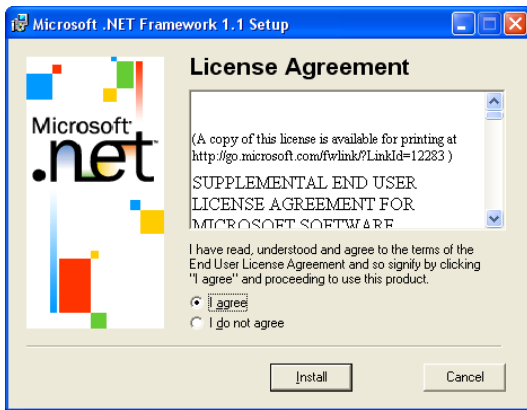

Figure 8: Microsoft .NET Installation License Agreement
- Once the setup is complete, a license agreement appears (see Figure 8).